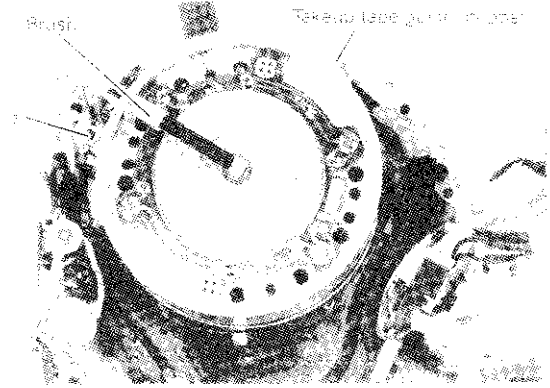
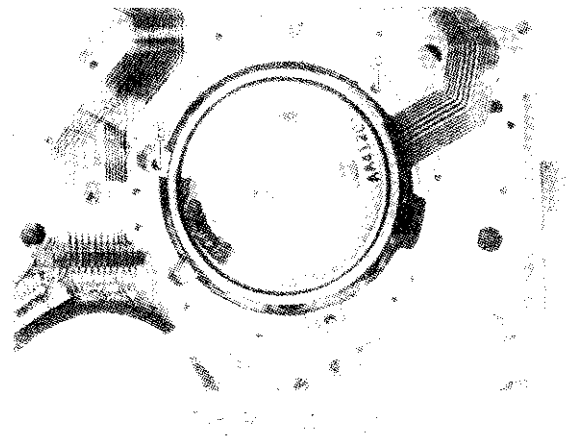

Fig. 3-4-1
Fig. 3-4-2
- (1) Take off the fixing screw (a) (Fig. 3-4-1) and remove the brush.
- (2) Take off the PCB MDA. (See 4-3.)
- (3) While fixing the drum assembly firmly, remove three drum assembly fixing screws (b, c, d) (Fig. 3-4-2).
- (4) Hold up the drum assembly slowly so that the assembly may not touch any peripheral part, then take off.